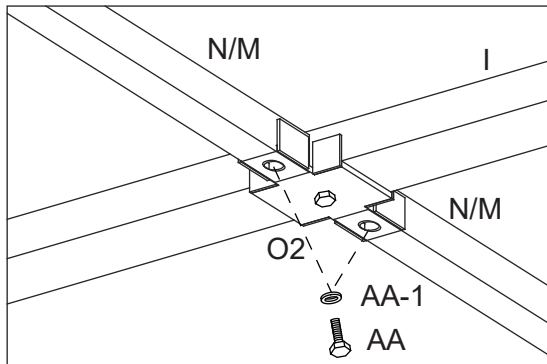

Figure 13-3
13.3: Attach the Horizontal Main Roof Supports (N, M) to the Connector (O2) using Bolts (AA) and Steel washer (AA-1). See Figure 13-3.